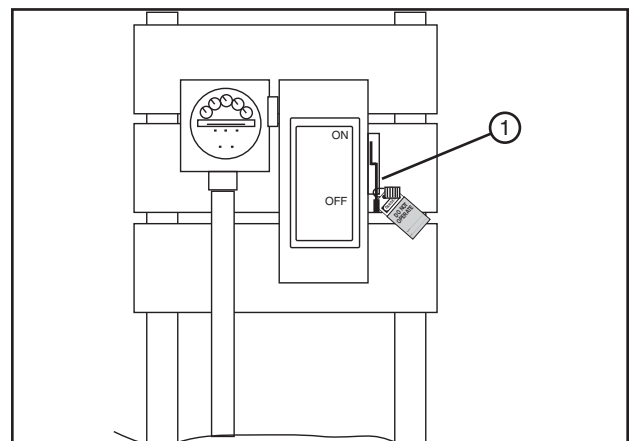

Figure 39-2 1. Public Power Service Disconnect
2. Turn OFF and lock the electrical service disconnect at each tow location. See figure 39-2.